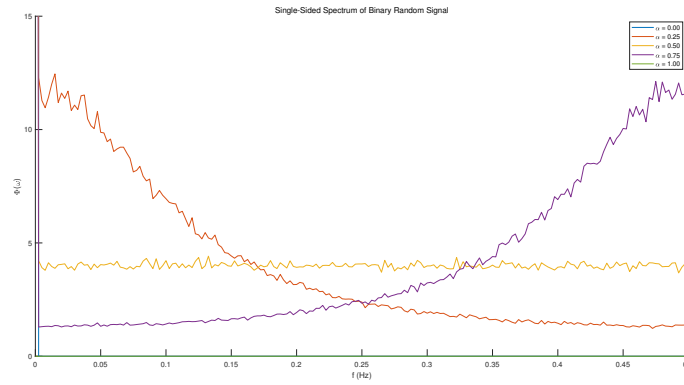
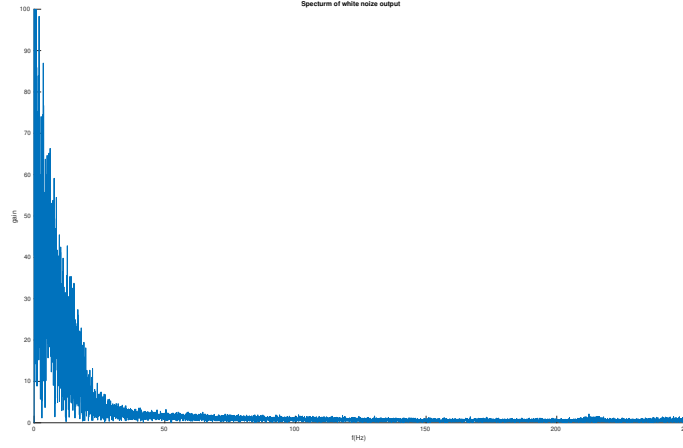

Figure 1: Spectrum of binary random signal.
Figure 4: Spectrum of white noise.
- Plot for the spectrum of the binary random signal for the required values of α is shown in Fig. 1.
- The binary random signal we choose have the similar output spectrum as the one of the white noises, which can be seen from Fig. 1 and Fig. 4.
Comparing Fig. 1 and Fig. 4, when $\alpha = 0.25$, the spectrum of binary random signal is similar to the spectrum of white noise.